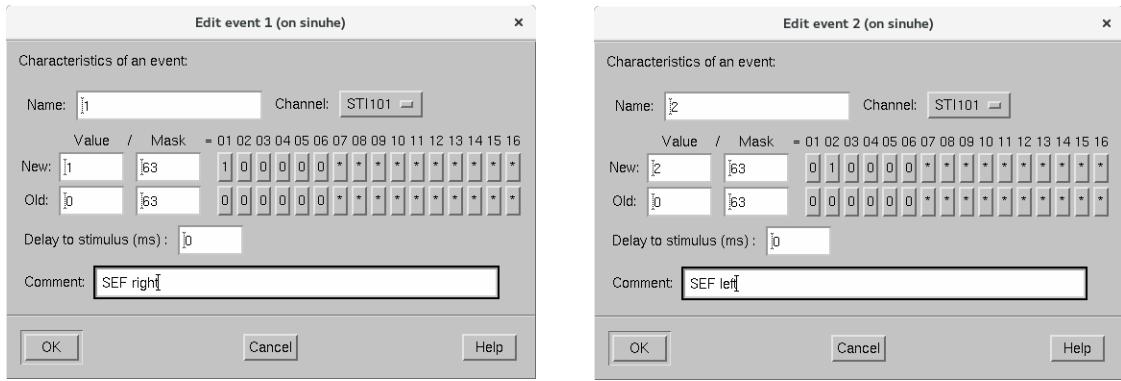
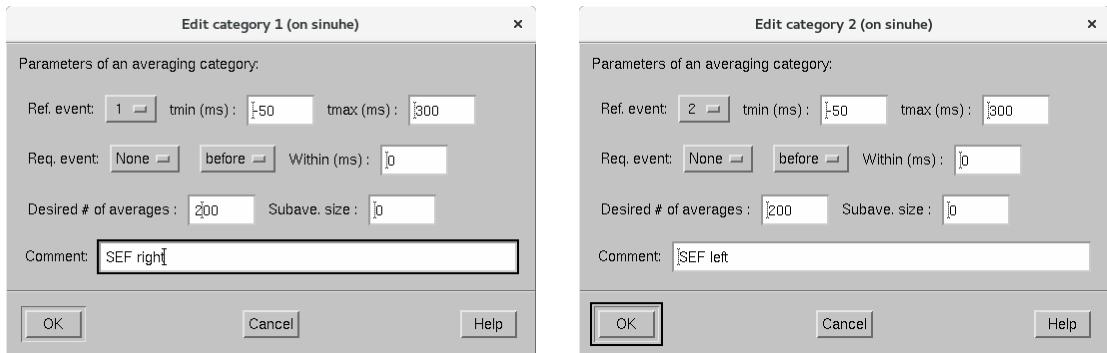

Figure 28: Characteristics for SEF trigger events.
Figure 29: Setup event averaging categories for right and left median nerve SEF.
- Select **Change** next to On-line averaging, then select **Change** to set **Event characteristics** (Figure 28):
- Activate **Averaging categories** 01, 02 for on-line averaging (Figure 29):
- Setting the averaged parameters is done in similar manner than for SEF, Figure 28 and Figure 29.